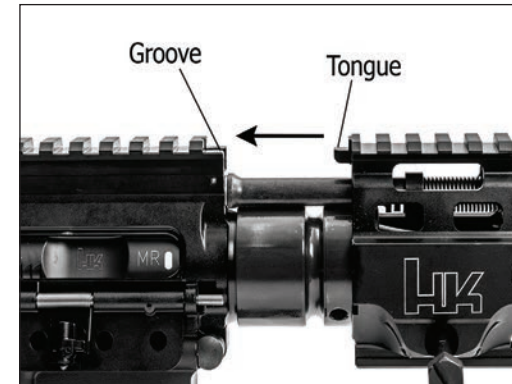

Fig. 32 – Reinstalling the handguard
- c. Slide the handguard onto the barrel nut, ensuring that the tongue on the handguard mounts into the groove on top of the upper receiver. Once the handguard is flush with the upper receiver, drift in the captive handguard retaining screw. Using an 11mm hex wrench or flat head screwdriver rotate clockwise until hand tight (Fig. 32).